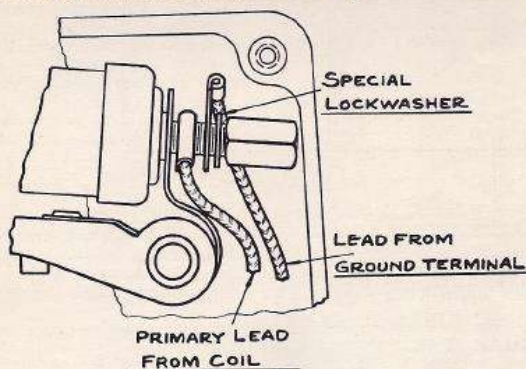

Figure 2.
- (b) For gearless machines, install the condenser in the top of the compartment with its hex terminal nut left loose but with the terminals of the main primary lead, ground switch lead, and a special lockwasher threaded on the condenser terminal below the nut. (See Fig. 2.)
- (b) For gearless machines, the free end of the spring is connected to the condenser terminal and held by the hex nut. Oil the bearing stud. See that the spring has a slight twisting tension tending to keep the bar from riding out on its bearing stud. Also see the illustration Fig. 2 for exact details. For all machines, adjust contact bracket to have contacts meet parallel and to open contacts .016 inch taken as an average for all the cam noses.